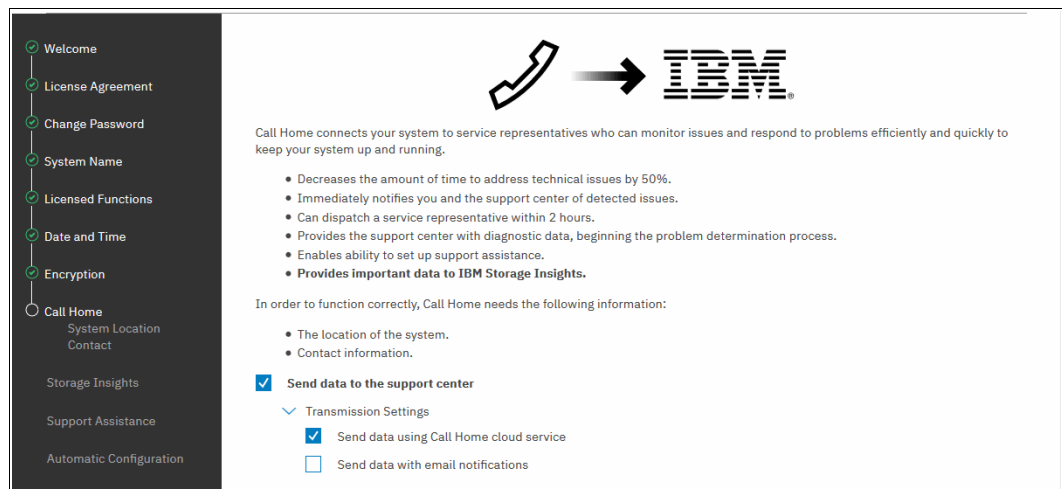

Figure 3-18 System Setup: Call Home methods
- Set up the Call Home functions, as shown in Figure 3-18. With Call Home enabled, IBM automatically opens problem reports and contacts you to verify whether replacement parts are required.